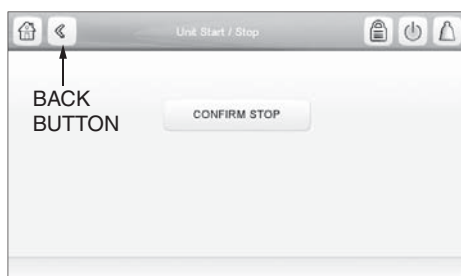

**Fig. 21 — Confirm Stop**
**Stop a Running Machine** — To stop a running unit, press the green Start/Stop button. Confirm the unit shutdown by pressing Confirm Stop or cancel by pressing the Back button (Fig. 21).